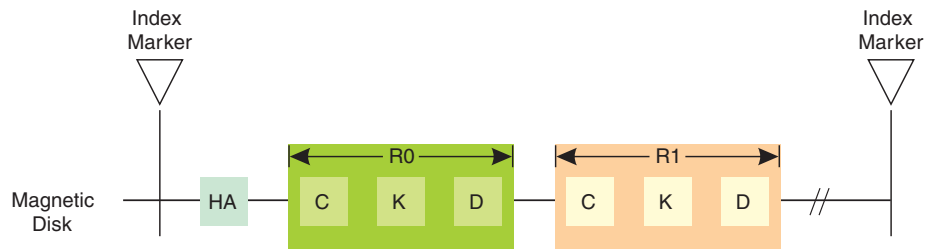

Figure 2-14 Track format for 3390 and 3380 DASD
Figure 2-14 shows the CKD track format emulated for 3390 and 3380 DASD.
All tracks are written with formatted records. The start and end of each track are defined by the index marker. Each track has the same basic format as that shown in Figure 2-14. That is, it has an index marker, home address (HA), record zero (R0), and one or more data records (R1 through Rn). These track formats are discussed in the following sections.
Index Marker — An index marker indicates the physical beginning and end of each track for each disk device (Figure 2-14).